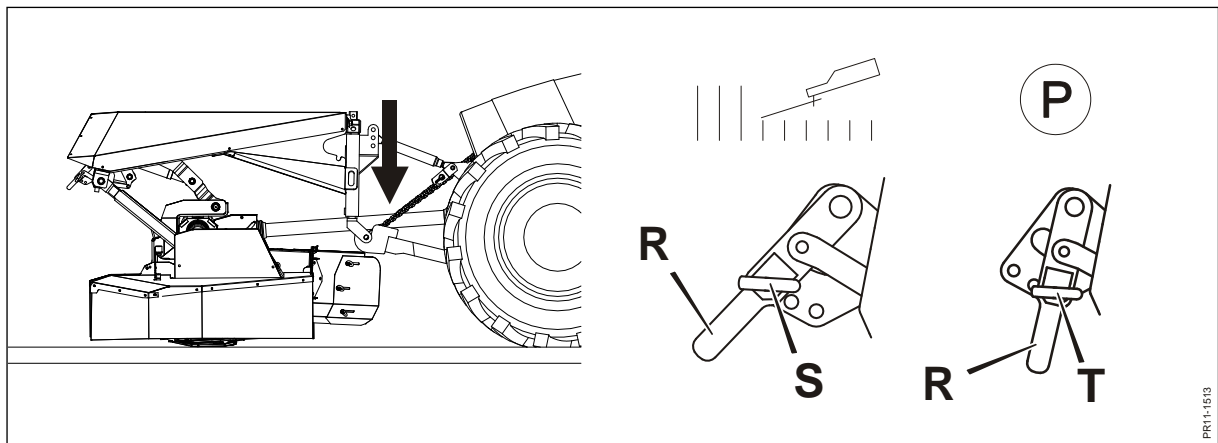

Fig. 2-7
**Fig. 2-7** This is done by placing the machine in parking position and lowering the link arms until the top link is loose. The machine is placed in parking position by moving the handle **R** from pos. **S** to **T**. Afterwards you lower the A-frame **K** until the top link gets loose. You can now adjust the length of the top link. Afterwards you raise the A-frame until the measures **A** and **B** are obtained.